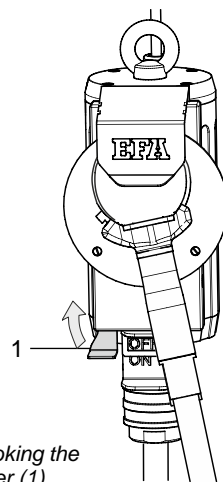

Fig. 6.1 – Unhooking the trimmer (1)
- 1) Push the locking lever (1) to the left and then upwards until the holding bar (2) is laid bare, *see Fig. 6.1*.